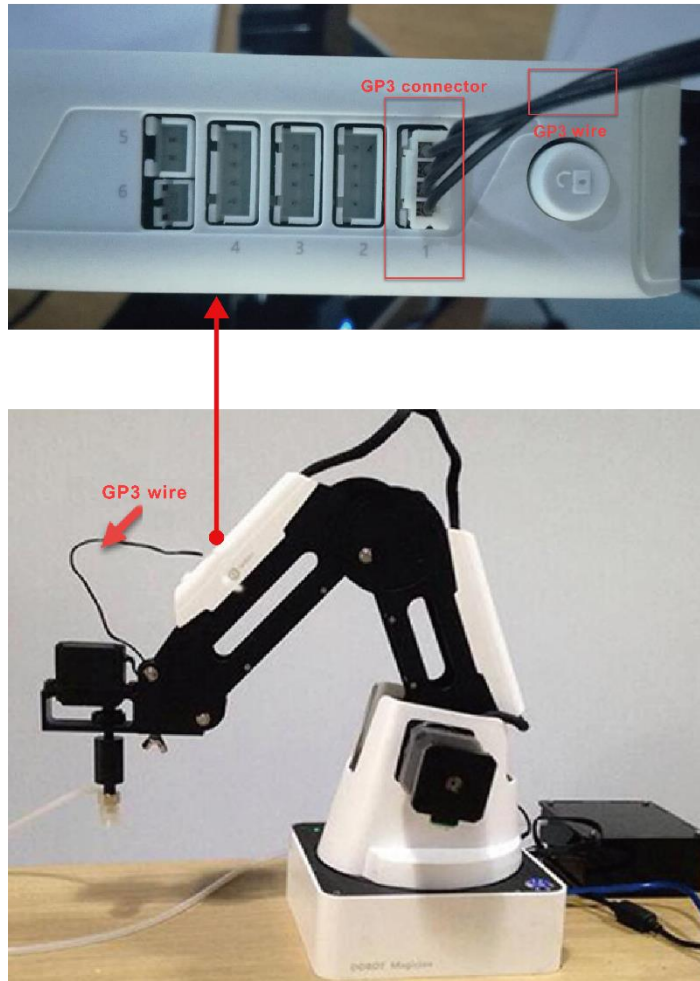

Figure 5.10 Connect the servo's GP3 cable to the GP3 connector
Step 4 Connect the servo's **GP3** cable to the **GP3** connector on the Forearm, as shown in Figure 5.10.